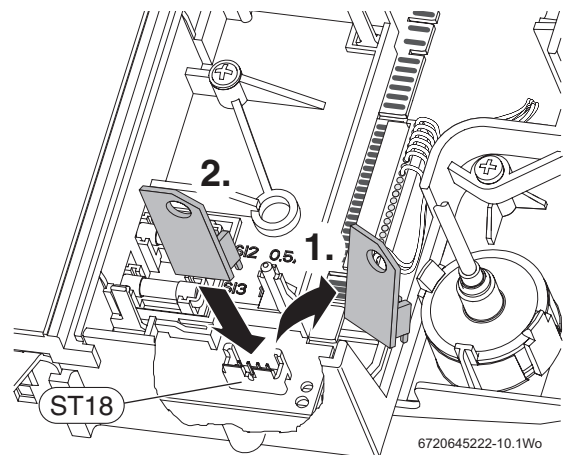

Fig. 59 Remove and replace the code plug
1. Refer to figure 59 and remove the code plug from the controller, cut the tie securing the plug to the boiler chassis and discarded the plug and tie.